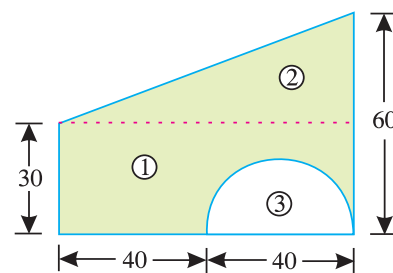

Fig. 6.25.
**Solution.** As the section is not symmetrical about any axis, therefore we have to find out the values of  $\bar{x}$  and  $\bar{y}$  for the area. Split up the area into three parts as shown in Fig. 6.25. Let left face and base of the trapezium be the axes of reference.